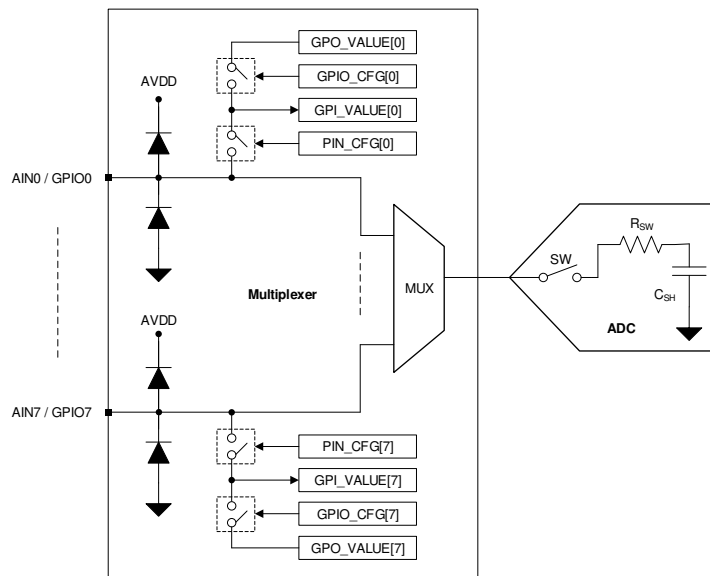

Figure 7-1. Analog Inputs, GPIOs, and ADC Connections
The eight channels of the multiplexer can be independently configured as ADC inputs or general-purpose inputs/outputs (GPIOs). As shown in Figure 7-1, each input pin has ESD protection diodes to AVDD and GND. On power-up or after device reset, all eight channels of the multiplexer are configured as analog inputs.
Figure 7-1 illustrates an equivalent circuit for the pins configured as analog inputs. The ADC sampling switch is represented by an ideal switch (SW) in series with a resistor (R_{SW} , typically 150 Ω) and a sampling capacitor (C_{SH} , typically 30 pF). During acquisition, the SW switch is closed to allow the signal on the selected analog input channel to charge the internal sampling capacitor. During conversion, the SW switch is opened to disconnect the analog input channel from the sampling capacitor.
To enable write access to the configuration registers for diagnostics, write 0x96 in the DIAGNOSTICS_KEY register. To enable bit-walk test mode, configure BITWALK_EN = 1b. In the bit-walk test mode (see Figure 7-1), the sampling switch (SW) remains open and the test voltage is applied on the sampling capacitor (C_{SH}) during the acquisition phase of the ADC. In diagnostic mode, the conversion process of the ADC remains the same as normal device operation. The ADC starts the conversion phase on the rising edge of $\overline{CS}$ and outputs the code corresponding to the sampled test voltage. The output code of the ADC is expected to be proportional to the test voltage, as shown in Equation 2, after adjusting for DC errors (such as INL, gain error, offset error, and thermal drift of offset and gain errors).